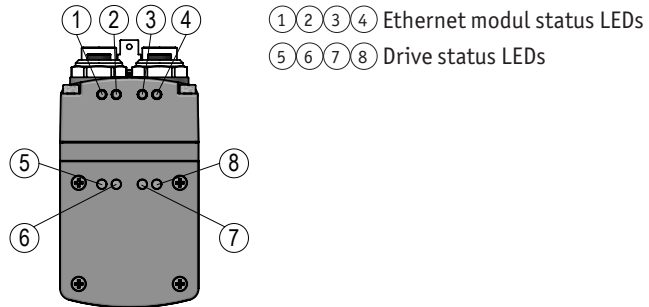

Fig. 12: Status Display
With factory settings, the LEDs ⑤ ⑥ ⑦ ⑧ (Fig. 12) inform about the drive's status. You can configure the functions of the drive status LEDs.